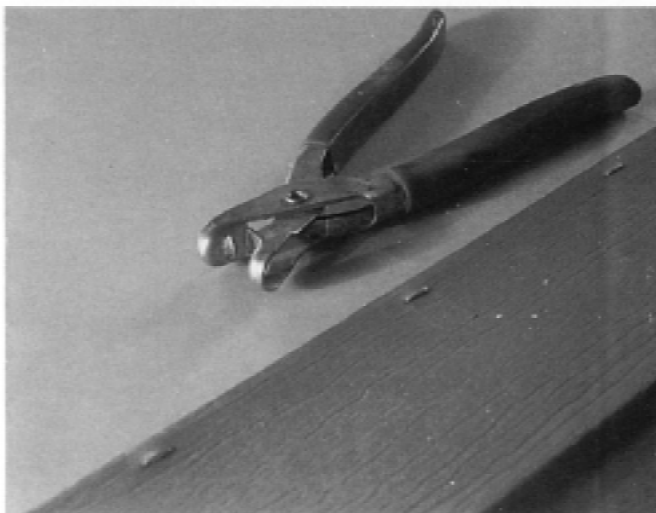

FIG. 1 Crimper and Crimps on Siding
3.2.3 *crimp*—small protrusions, typically approximately ½ in. (12.7 mm) long, ⅛ in. (3.2 mm) wide, and projecting ⅛ in. (3.2 mm) formed by a crimper (snaplock punch). (See Fig. 1.)
3.2.4 *crimper*—a special hand tool designed to form crimps (snaplock ears) intended to hold partial panels in place. (See Fig. 1.)
3.2.10 *snaplock ears*—See *crimp* and Fig. 1.
3.2.11 *snaplock punch*—See *crimper* and Fig. 1.